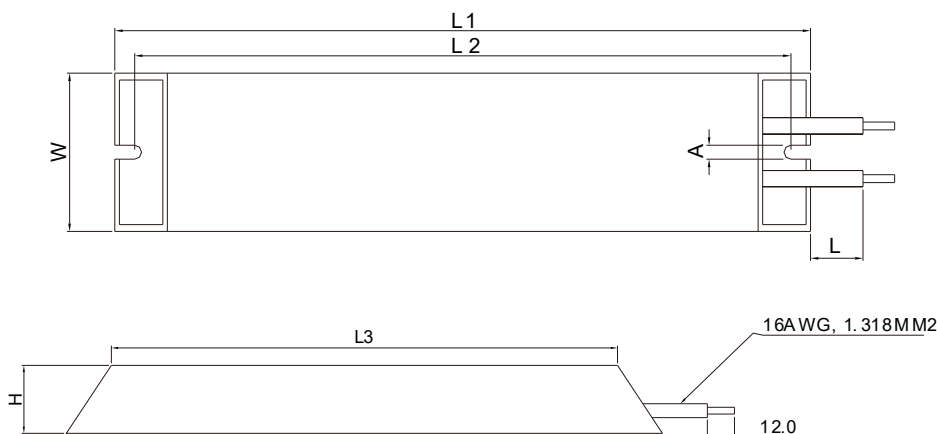

Figure 7-2
- (2) Aluminum housed resistors: For below 1000W, see the following appearance of aluminum-housed resistor (Figure 7-2) and its model and specification comparison table (Table 7-3) for details.